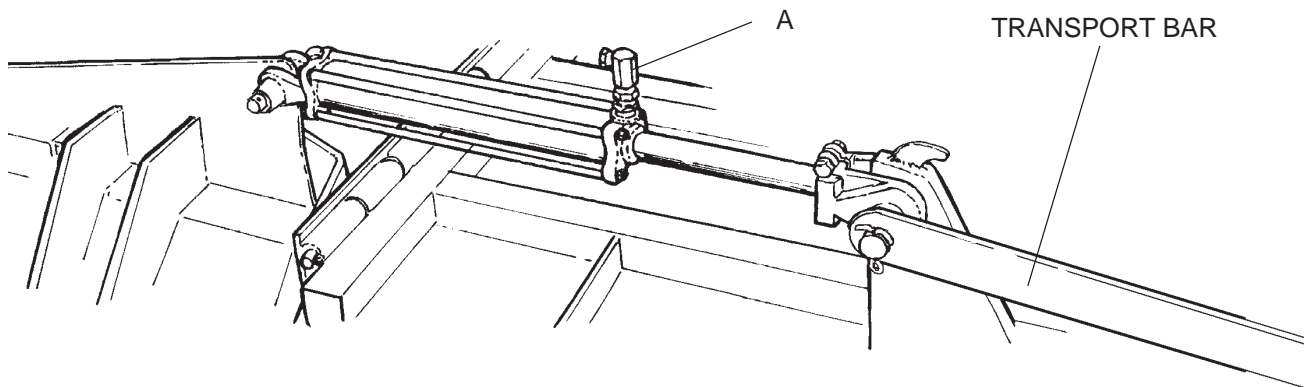

**FIGURE 8.** Center Axle Hydraulic Cylinder Attachment
Install the clevis rod end (1) of the 8" stroke Hydraulic Cylinder to the lug on the Center Axle (2). The clevis base fastens between the flats on Spring Assembly (3) on the Center Section. **FIGURE 8.**